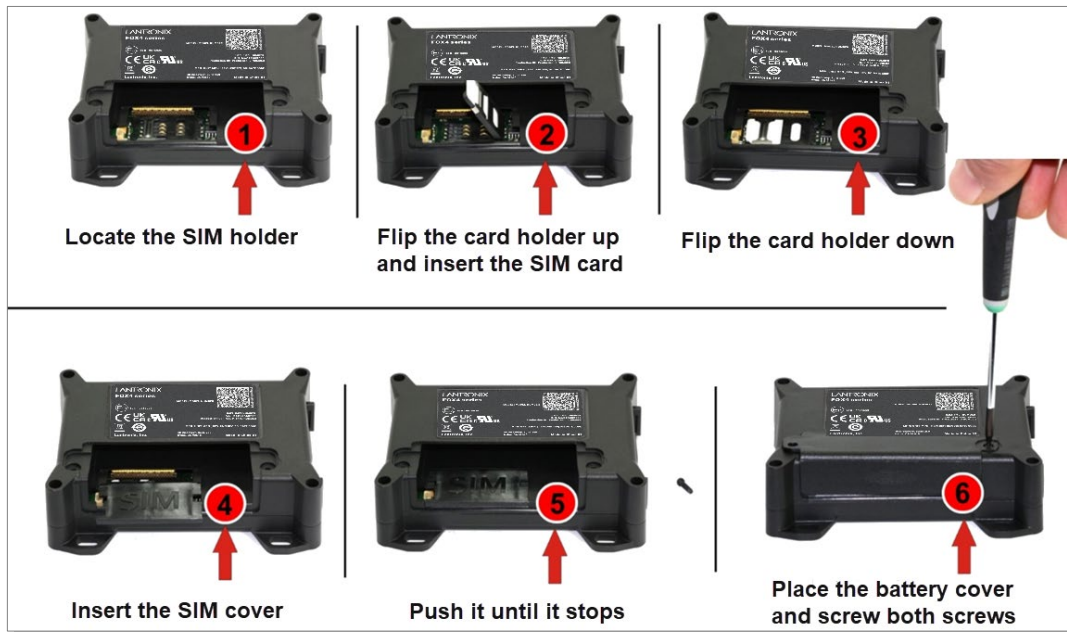

Figure 16: Steps for inserting the SIM card into FOX4-4G device
1. Remove the power supply and any other connections from the device. Turn the FOX4-4G device on its back side as shown in Figure 16 below.
4. Flip the cardholder back (without force) (3), then hold it pressed and move the metal slider in direction marked **LOCK** until it stops.
5. Insert the SIM card cover in the direction as shown in picture below (4) and slide it until it stops (5).